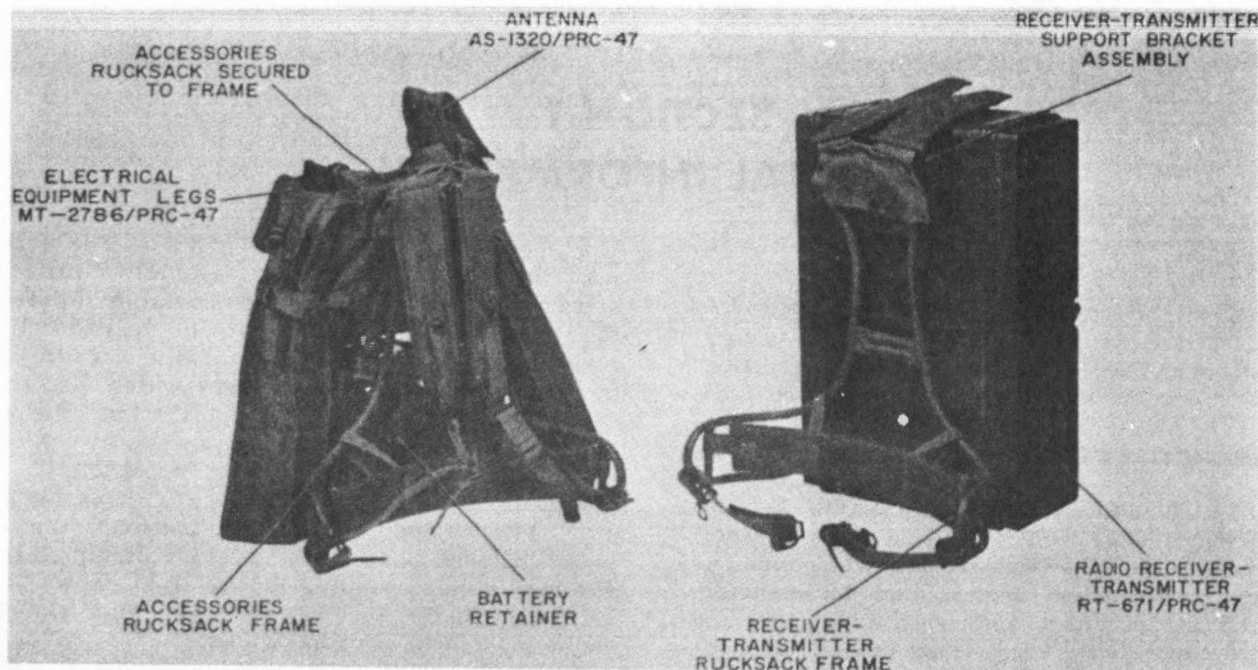

Figure 1-3. Rucksack Frames Packed with Radio Set AN/PRC-47
The radio set is divided into two parts for portage. Each part is man packed on a separate rucksack frame (see figure 1-3). One part consists of the receiver-transmitter. The other part consists of the silver-zinc battery, the associated power cable, the whip antenna, and accessory equipment required for portable operation.
b. RECEIVER-TRANSMITTER. - The receiver-transmitter contains the major electronic circuits and controls of the radio set. The receiver-transmitter is normally housed in its own case (see figure 1-3). When the cover of this case is closed, it is completely watertight. The case is mounted on the rucksack frame as shown in figure 1-3 and also in figure 2-2 of Operator's Manual for Radio Set AN/PRC-47 and Accessories (TM-03817A-12/1).